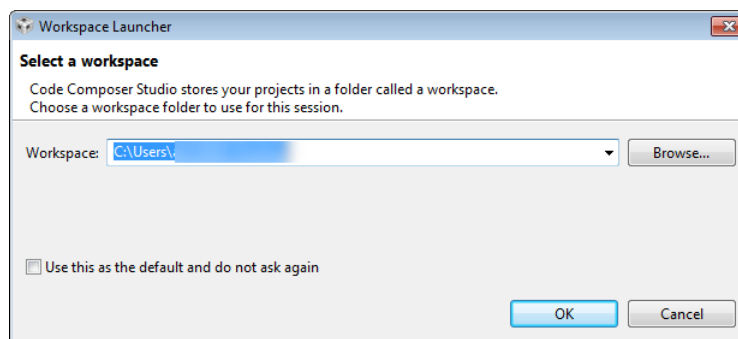

Figure 19. Workspace Selection
- Step 2. Select the location and name of the workspace. The location and naming convention can be changed. (see Figure 19).